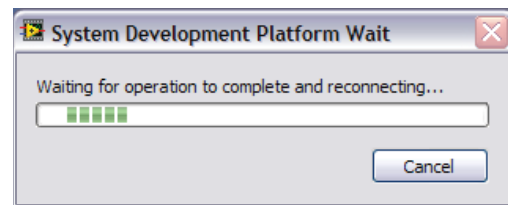

Figure 4. System Develop Platform Wait Window
4. If the SDP board is connected, the system development platform connects for a brief period as shown in Figure 4.